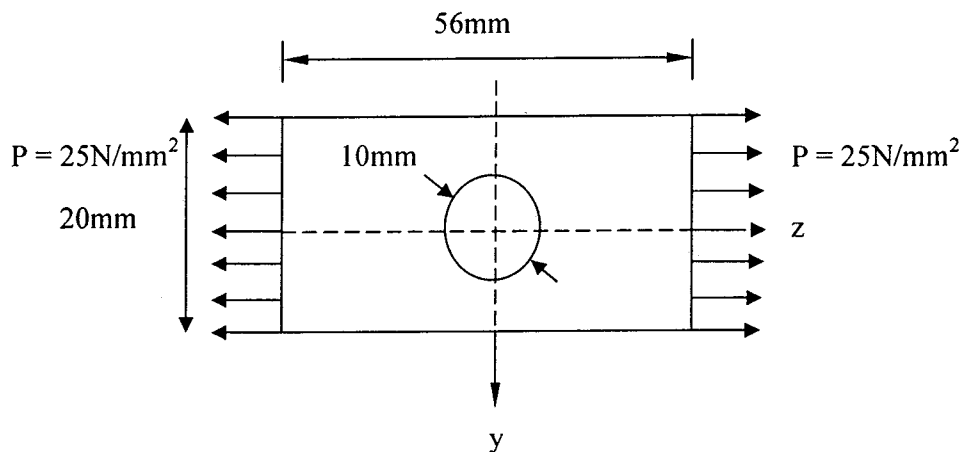

Figure 8
- (b) A plate with a hole is subjected to tension,  $p = 25.0\text{N/mm}^2$  as shown in Figure 8. It is a 2D plane stress problem. The plate is modeled with linear four-noded rectangular elements and three-noded triangular elements. Given Elastic Modulus  $E = 7.0 \times 10^4 \text{ N/mm}^2$ , thickness,  $t = 1\text{mm}$  and Poisson ratio,  $\nu = 0.25$ .